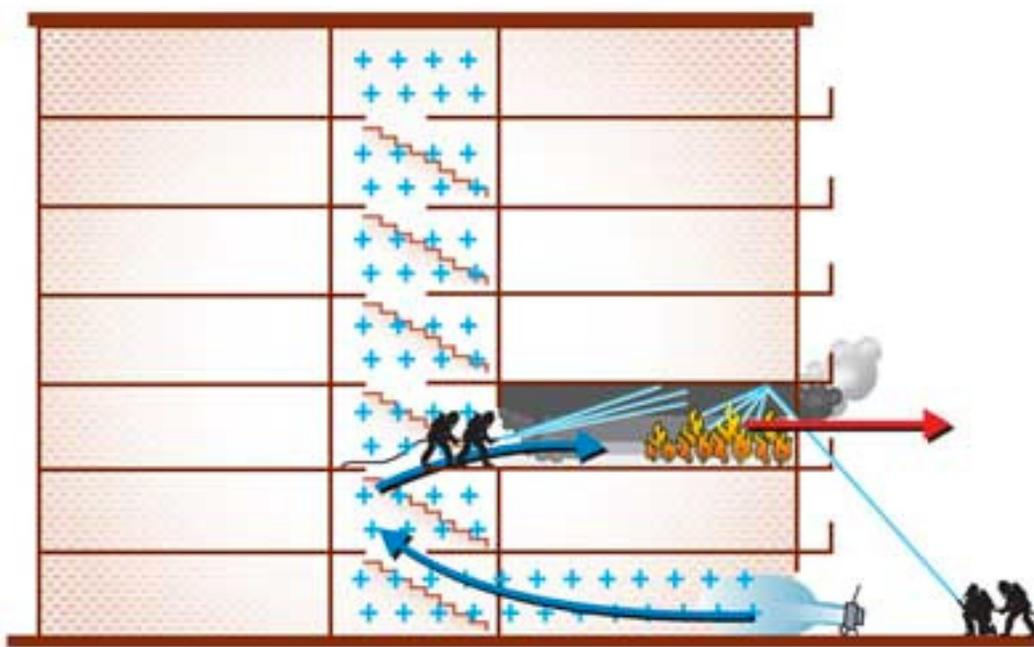

Figure 4. Positive Pressure Attack on the Softened Fire
4. PPA on the softened fire. Once the flammability of the fire gases and the interior temperature have been reduced, a PPA can begin. A flow path is created from the entrance door to the window at which the transitional attack was performed. Excess smoke and steam will be removed rapidly. Fire reaction to ventilation will be milder because of the “softened” conditions prior to PPV (Figure 4).